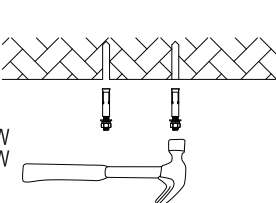

Figure 2-1
- 2.Use a hammer to put the expansion screws into the holes (Figure 2-1).